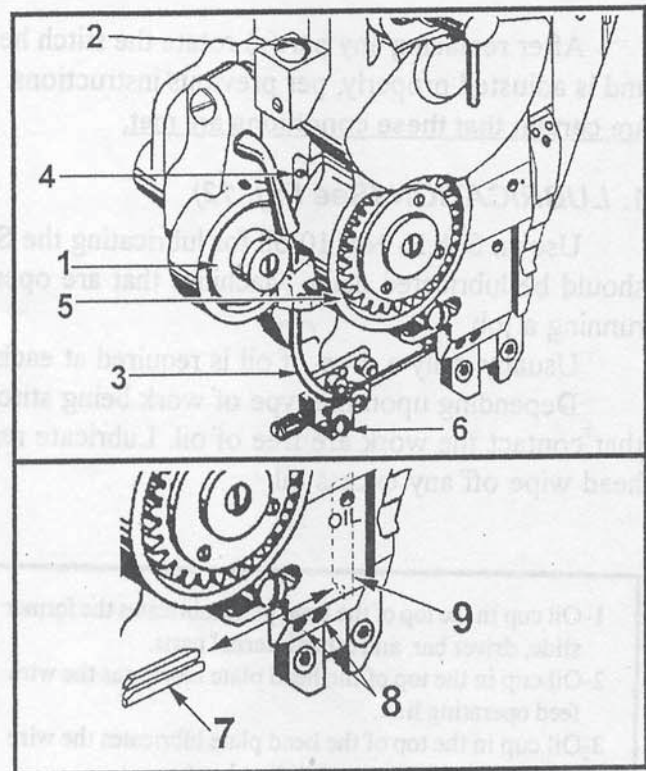

Figure 13-Inspecting Wire Feed Gears, Tubes and Stationary Cutter
A. WIRE FEED GEARS (See Fig. 13)-The wire feed gears (Fig. 13 shows the left, or idler, gear (1), the right, or drive gear (5) being located behind the wire feed guard casting) should be checked for a smooth and parallel wire gripping surface. Worn surfaces may result in wire slipping thereby not feeding properly. If surfaces are not parallel the wire may be rolled on one side causing wire curvature and resulting in imperfect stitches.
B. WIREFEED TUBES (See Figure 13)-The upper (2) and lower (3) wire tubes should be checked for any obstructions in the tube passages, which may interfere with free movement of the wire. Slots may eventually appear in tube passages, due to normal wear, which will cause the wire to catch and bind, thereby resulting in improper feeding.
C. STATIONARY CUTTER (See Figure 13)-The stationary cutter (7) should be periodically checked for any obstructions in the wire passage which may interfere with the free movement of wire. Check that the cutting end is sharp, a dull cutter may be resharpened but eventually must be replaced.